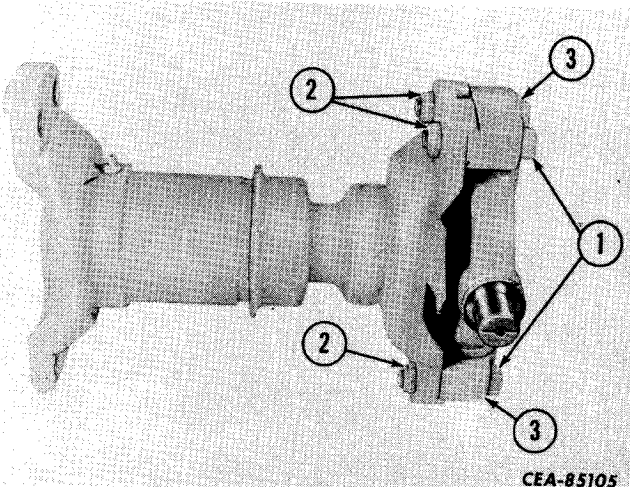

Figure 5-14
Install the cap screws (1, Fig. 5-14) and locknuts (2) in the bearing caps (3). Torque the cap screws and locknuts. Refer to "SPECIAL TORQUES" in this section.